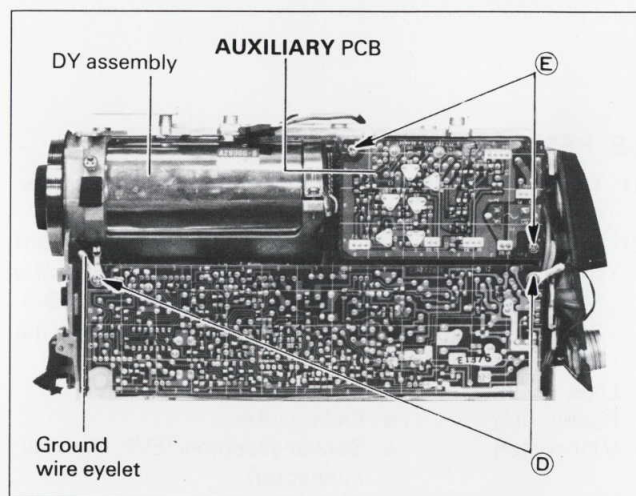

Fig. 9-8 Removal of DEF. & POWER PCB, AUXILIARY PCB
- (1) **DEF. & POWER PCB** can be removed by removing two screws (D) shown in Fig. 9-8. When replacing the circuit, ensure that the ground wire eyelet is secured.
- (2) **AUXILIARY PCB** can be removed by unfastening two screws (E) shown in Fig. 9-8.